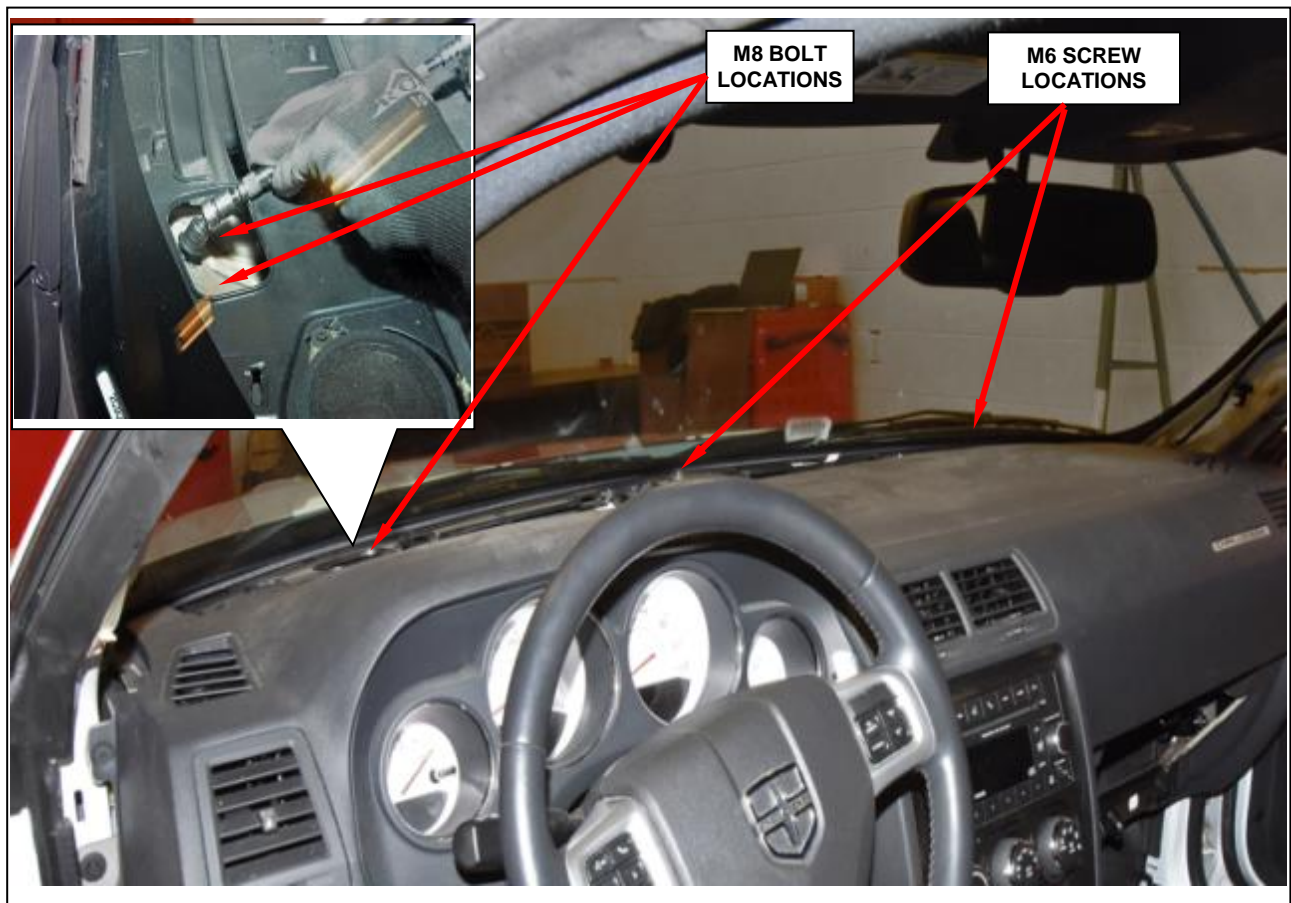

Figure 36 – Top Instrument Panel Fasteners
33. Remove the defroster grille to access the instrument panel top retaining bolts then remove and save the two M8 bolts and two M6 screws (Figure 36).